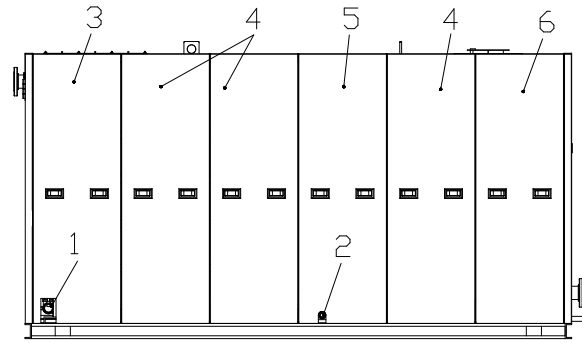

Figure 6 Triple-Flex Right Side View
3. Main gas pressure regulating and shutoff valve actuator. The pressure regulating actuator provides slow opening fast closing safety shutoff and air/gas ratio control. The actuator controls the pressure difference across the gas limiting orifice valve (Figure 7 item 26) as a function of the pressure difference across the furnace section so that the air to gas ratio remains constant irrespective of air volume changes. A minimum of 14 inches of water column must be supplied at the gas inlet connection (Figure 6 item 1). The supply pressure can be measured at the test port (Figure 7 item 28).